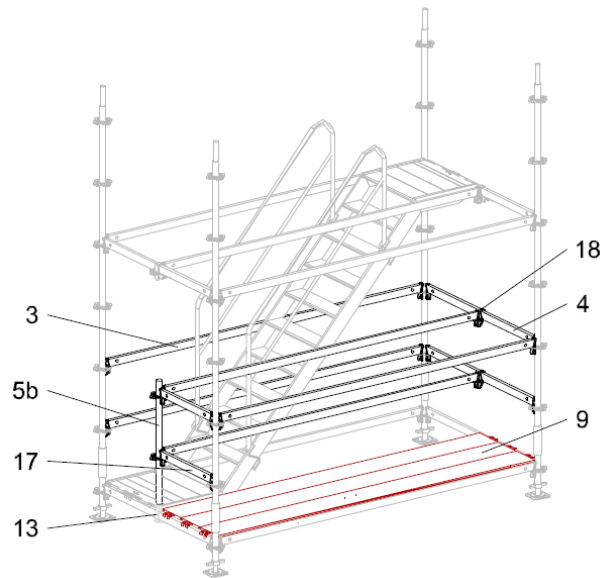

Fig.A7-5
Reposition Steel Decks UDG 300 (9) to position shown. (Fig.A7-5)